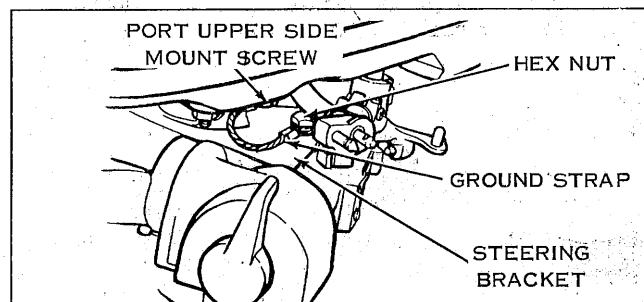

FIGURE 10
28. Attach ground strap provided in kit to the front attaching bolt of the port upper side mount and to the steering bracket with screw, nut and washer furnished in kit. See Figure 10. (Note - Make sure connections are free of paint and tightened securely.)
2. Place the two fuses supplied with the kit in the fuse clips on the terminal block. See Figure 10. The short fuse (4 amps) is placed in bottom fuse clip. This fuse will be in the field circuit of the generator and protects the generator from overload. The long fuse (20 amps) is placed in the top fuse clip. This fuse provides protection against overloading from the auxiliary electrical accessories.